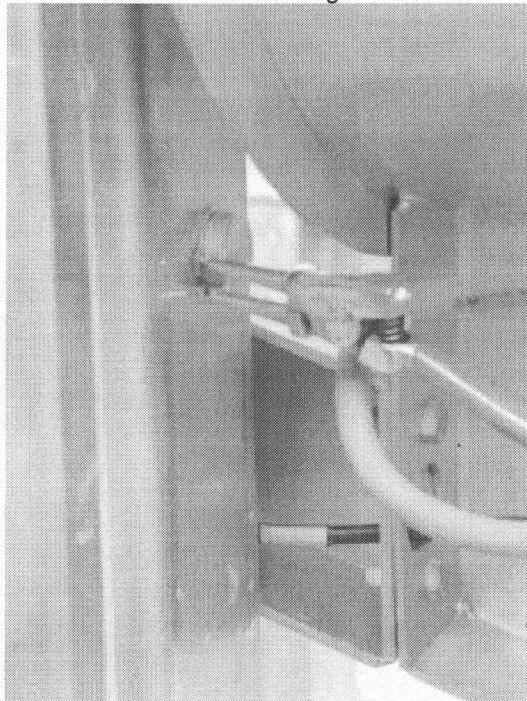

Fig. 077
4. Remove the retaining studs of the lifting belts on the running wagon (Fig. 077).